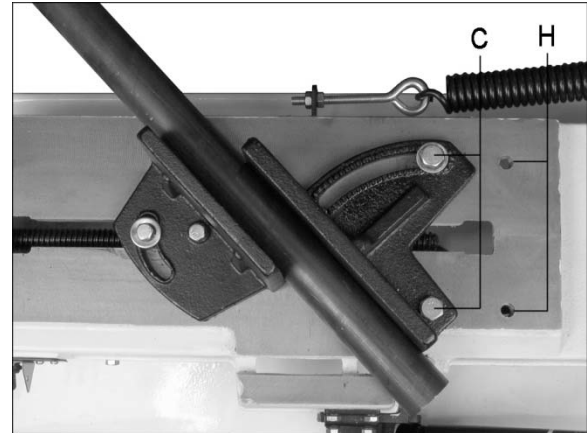

Figure 16
1. Loosen screws on fixed jaw (C, Figure 16), and floating jaw (E).
2. Swing both jaws to match desired angle on scale (G). Tighten screws (C).
1. Remove two screws (C, Figure 16).
2. Reposition fixed vise in the secondary holes (H).
3. Reinstall screws (C) and tighten.